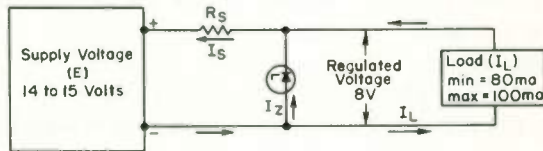

Fig. 32
The next 8 questions refer to Fig. 32.
14. In Fig. 32 the load requires a regulated 8 volts and draws a current that varies between 80 and 100 ma. The d-c output voltage from the unregulated power supply (E) varies between 14 and 15 volts. When the power supply voltage is 14 volts, the voltage drop across R_S is